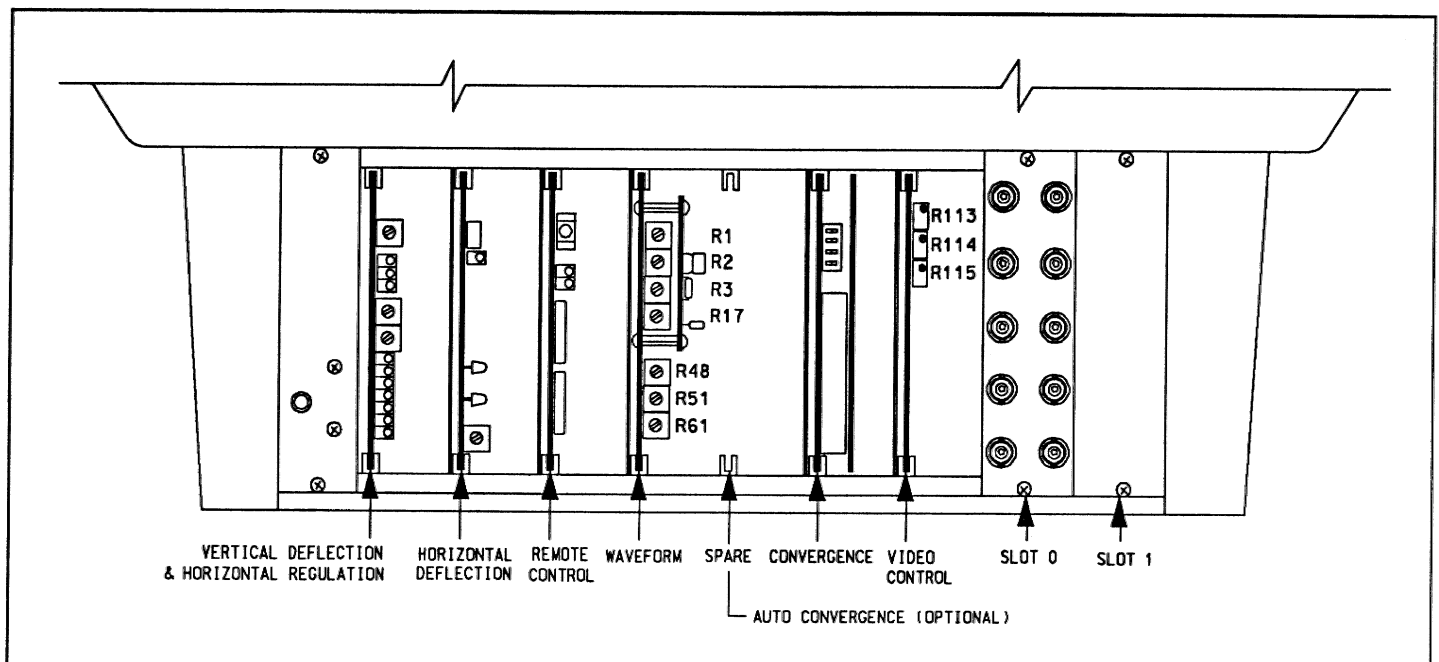

FIGURE 7-3. Video Control and Waveform Module Controls
only. Adjust R113 on the Video Control module until the red crosshatch bars disappear. Repeat, for the green and blue CRTs, adjusting R114 and R115 respectively. See Figure 7-3.
h) Turn all switches on (SW1, SW2 and SW3). Adjust BRIGHTNESS to 5. Increase CONTRAST to 3. Connect the white field generator. Turn the three trimpot drive controls (red R1, green R2, blue R3) on the Waveform module fully clockwise. Refer to Figure 7-3.